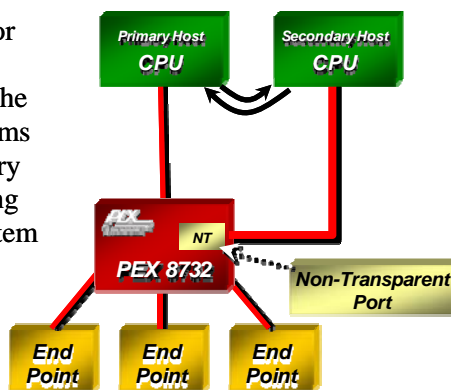

Figure 3. Non-Transparent Port
In Single-Host mode, the PEX 8732 supports a **Non-Transparent (NT) Port**, which enables the implementation of **dual-host systems** for redundancy and host failover capability. The NT port allows systems to isolate host memory domains by presenting the processor subsystem as an endpoint rather than another memory system. Base address registers are used to translate addresses; doorbell registers are used to send interrupts between the address domains; and scratchpad registers (accessible by both CPUs) allow inter-processor communication (see Figure 3).